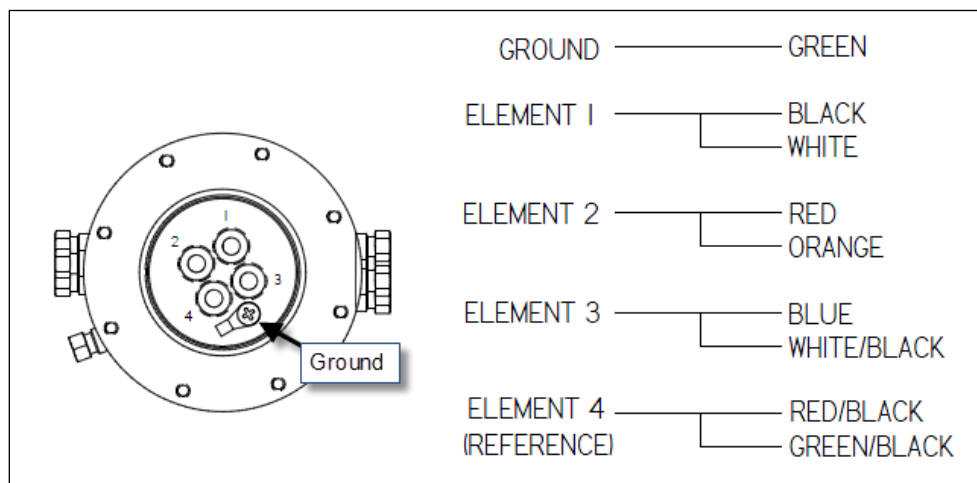

Fig. 7.4. Multiport Filament Layout
21. Refer to Figure 7.4 for wiring color code.